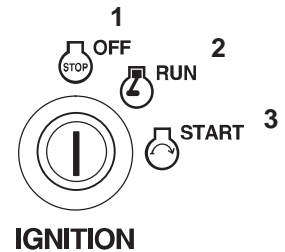

Figure 19
2. Turn the ignition key to off (Fig. 19).